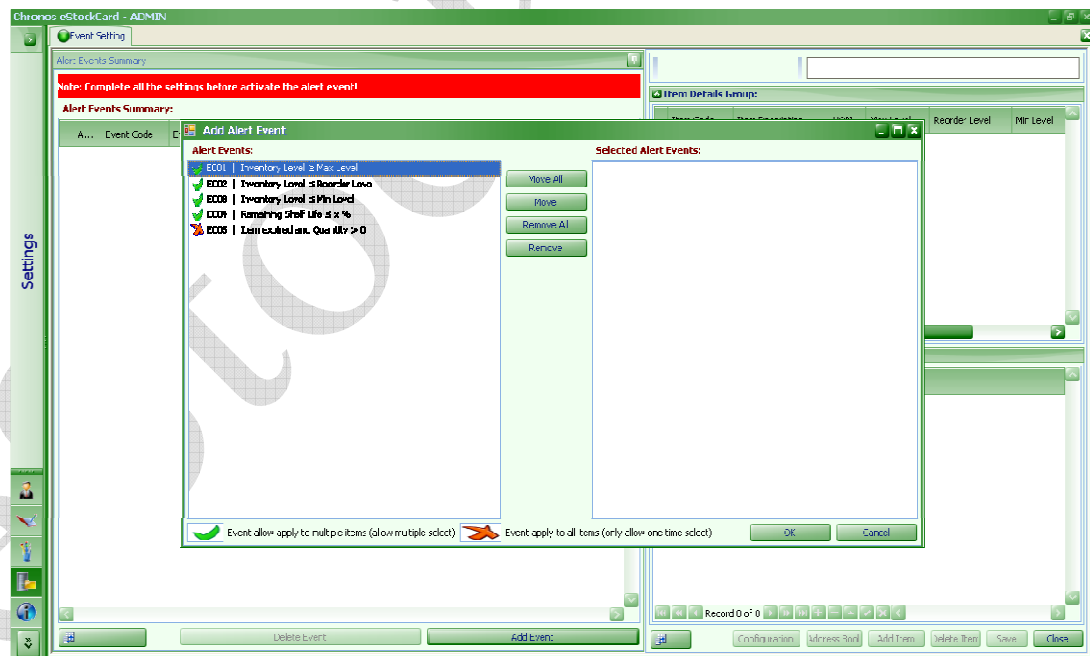

Fig. 62
Step 2 Click “Add Event” (Fig. 62)